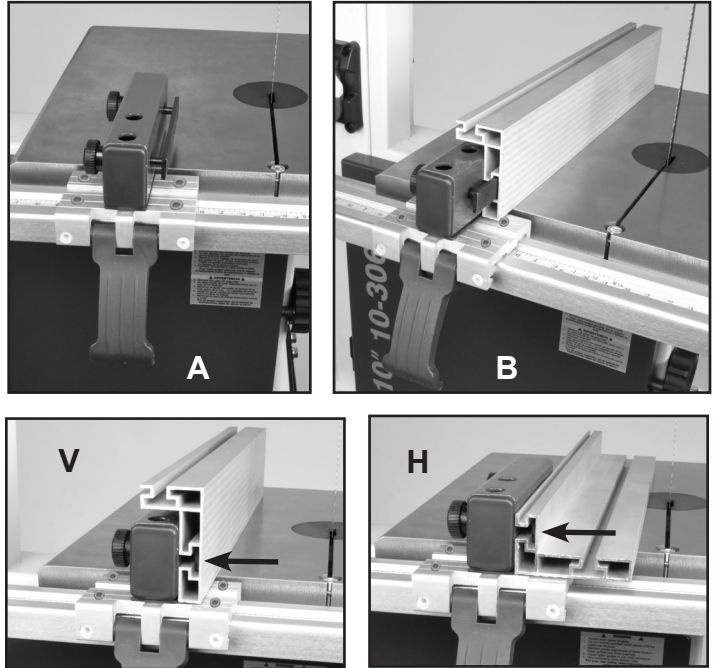

FIGURE 6
1. Install the Fence Carrier Assembly (#99-160) onto the fence's Guide Rail. The Carrier's front, Lever Handle (#101) should be lifted up, released, to allow the Carrier (#100A) to fit onto the top of the guide rail. Once in place, move the carrier's front lever handle down to lock the carrier in position on the guide rail. FIG. 6 A.
2. The Fence (#106) attaches to the carrier by sliding it onto the steel Locking Frame Bar (#105). FIG. 6 B. There are two 'T' slots in the fence that the bar will slide into. FIG. 6 V & H.